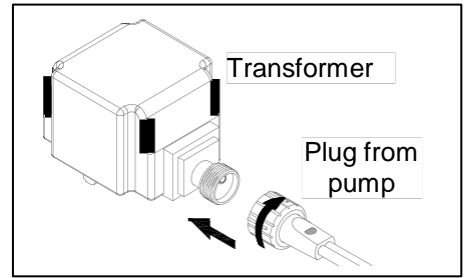

Fig. 9
9. Connect the pump to the transformer by pushing the plug into the transformer socket until it is firmly seated. Hand tighten the nut from the plug to the socket. Fig. 9